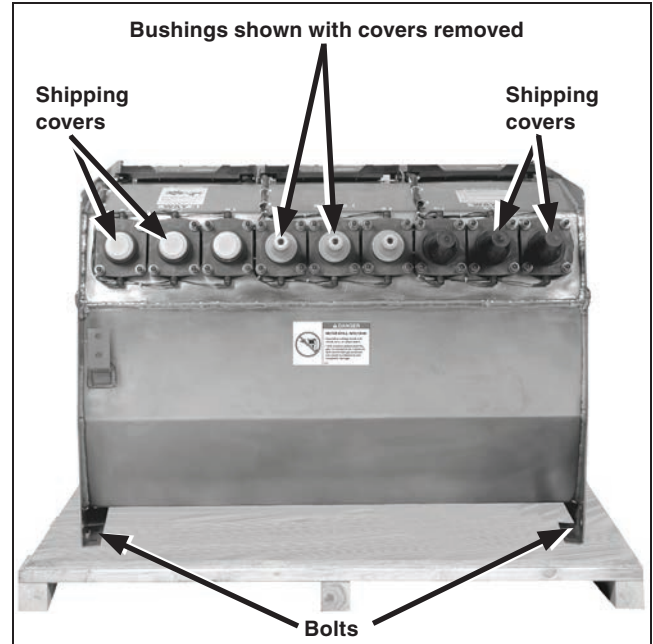

Figure 48. The switchgear is bolted to skid in four places for shipment.
- STEP 1.** Remove the switchgear from its crate and lift the gear, observing the precautions given under the “Handling” section on page 29. See Figure 48.